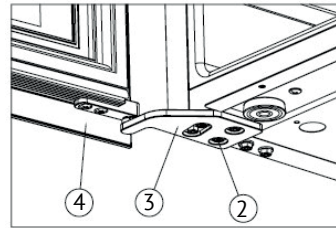

Figure 5
➔ Install the right upper hinge (3), and screw tight the M5\*16 screws (2) (Figure 5).